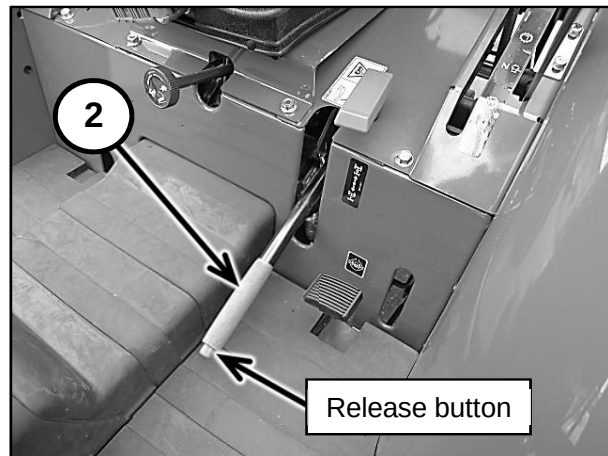

Figure 2-27
The parking brake (2) in Figure 2-27, is used for locking the brake systems in the applied position. The parking brake should be applied whenever the tractor is parked.